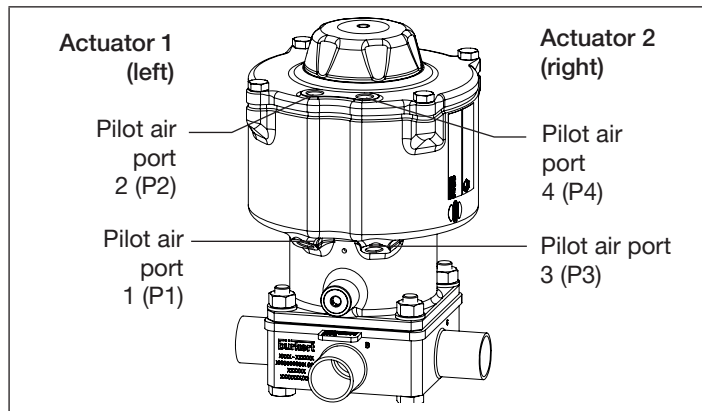

Fig. 16: Pneumatic connection
- Connect the control medium to the pilot air port 1 and / or 3 (see “Fig. 16”).
- Connect the control medium to the pilot air port 2 and / or 4 (see “Fig. 16”).
- Connect the silencer into the free air discharge connection (see “Fig. 16”).